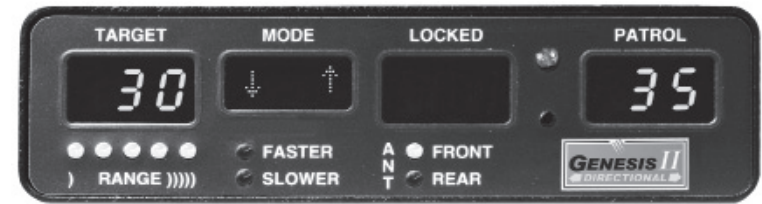

Figure 9.4b
5. The speed should match those in Figures 9.4b